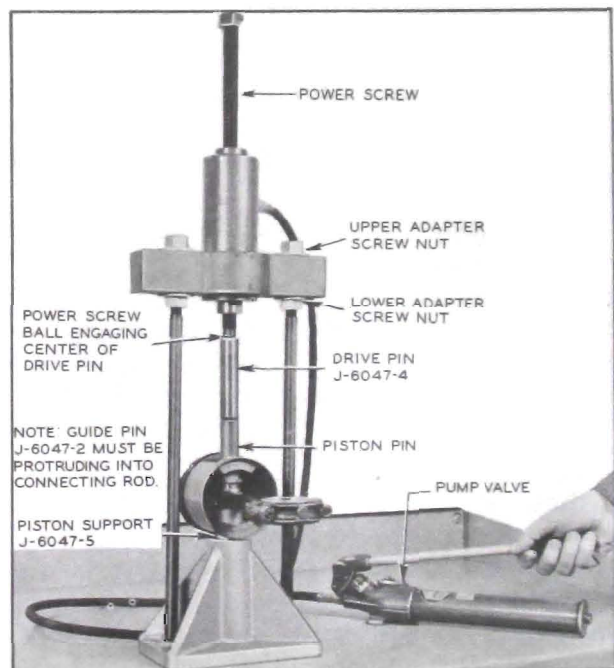

Figure 2-34—Installing Piston Pin
1. To assemble piston, pin, and rod, first place Piston Support J-6047-5, Return Spring J-6047-3, and Guide Pin J-6047-2 in base plate of press. Use the piston support with the full radial face upward. See Figure 2-34.
3. Place small end of Drive Pin J-6047-4 in hold in upper (protruding) end of piston pin and position the assembly in the press. See Figure 2-34.